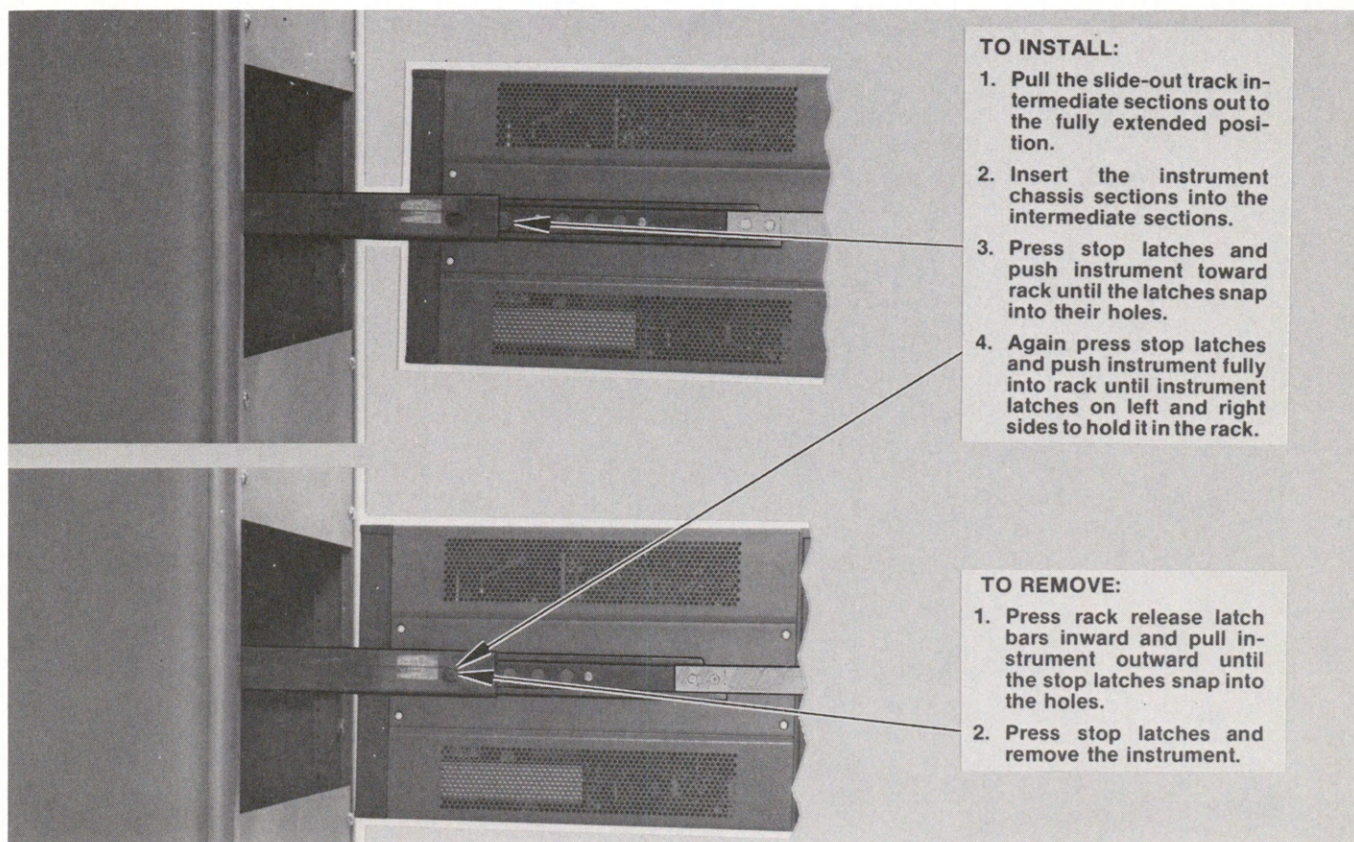

Fig. 4-9. Installing and removing the instrument.
1. Insert the instrument into the rack as described and shown in steps 1 through 4 of the "TO INSTALL" procedure given in Fig. 4-9.